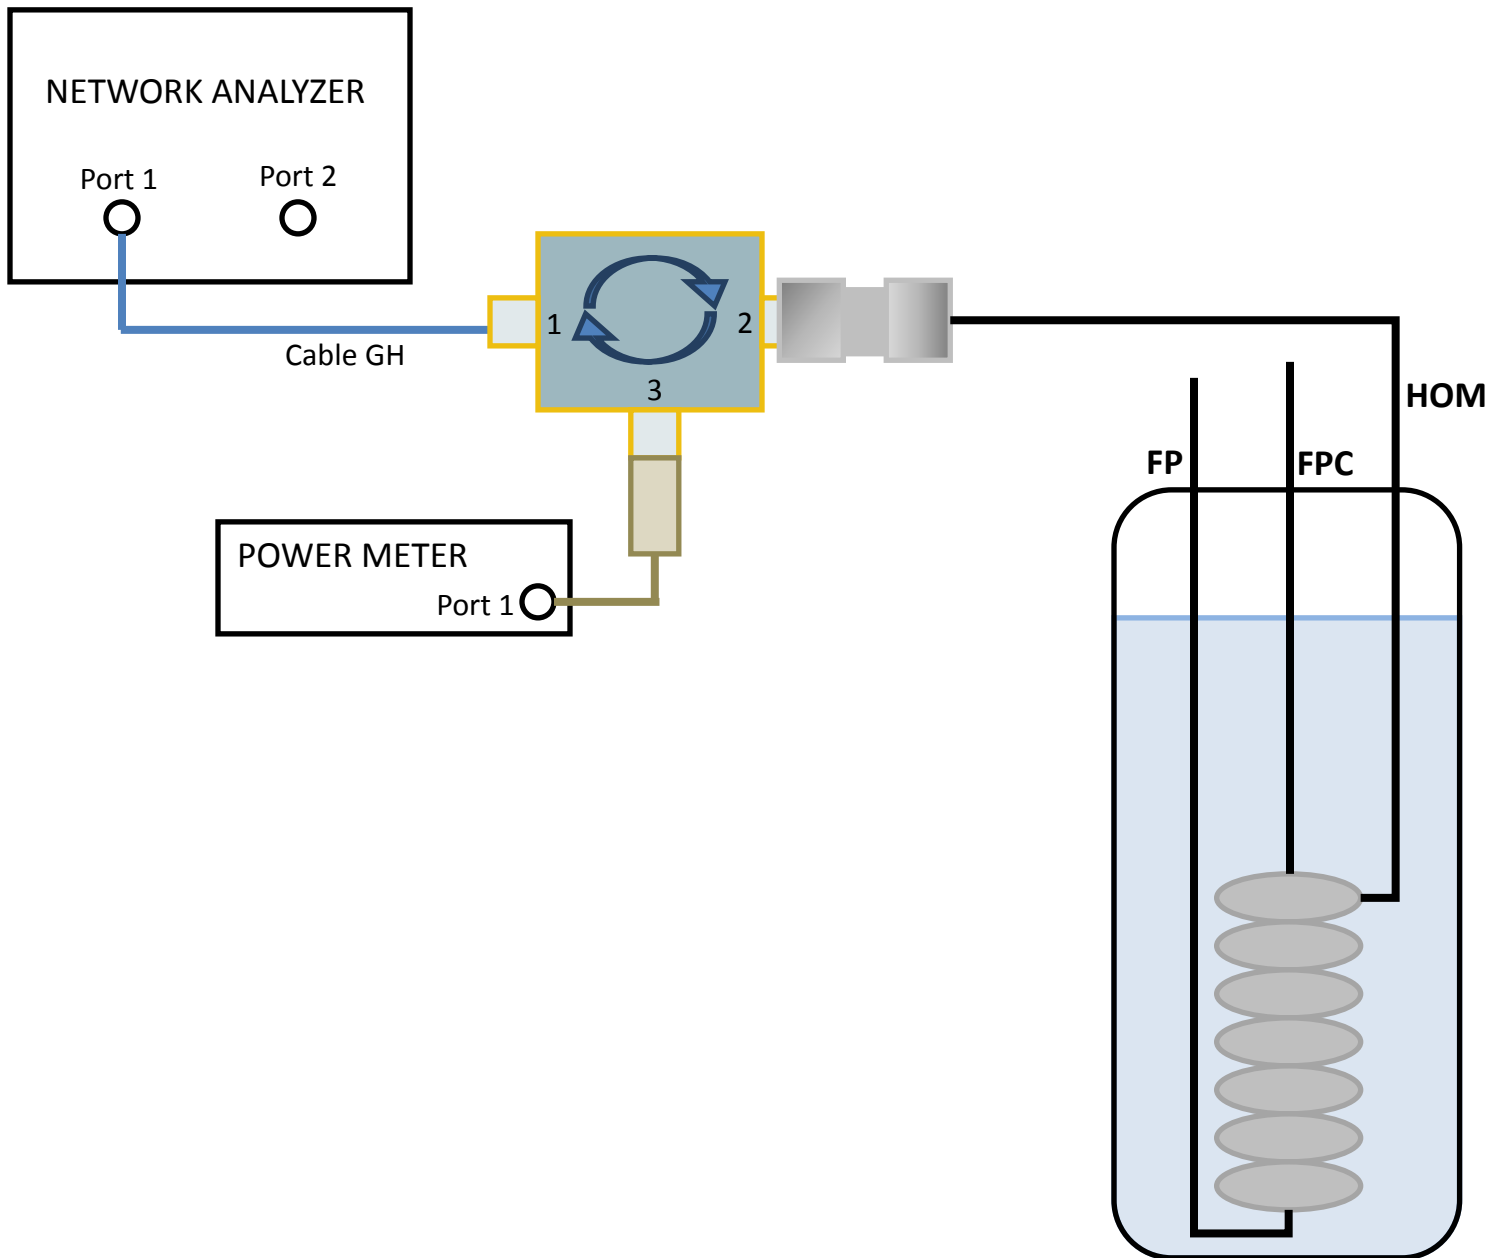

Figure C3. Circulator connected to Network Analyzer, HOM Cable, and Power Meter
- a. At Dewar, connect circulator ports 1, 2, and 3 as shown in Figure C3:
- a. At Dewar, connect circulator ports 1, 2, and 3 as shown in Figure C3 above: